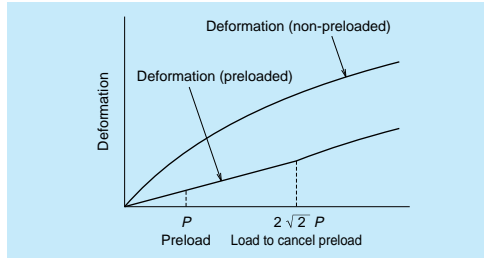

Fig. II-2-1 Elastic deformation
- In general, a load range in which the preload is effective becomes about 2.8 times of the preload (Fig. II-2-1).